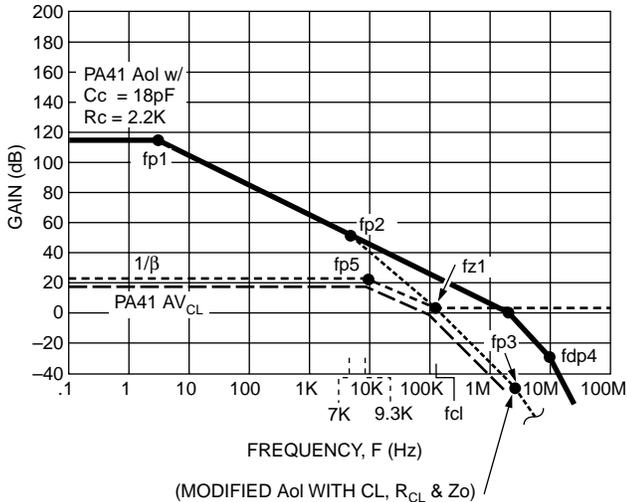
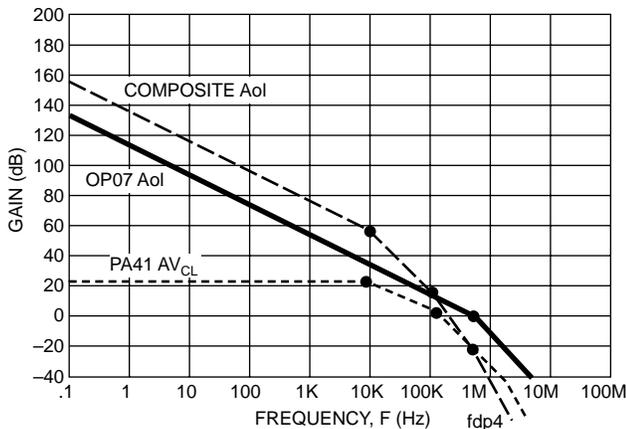
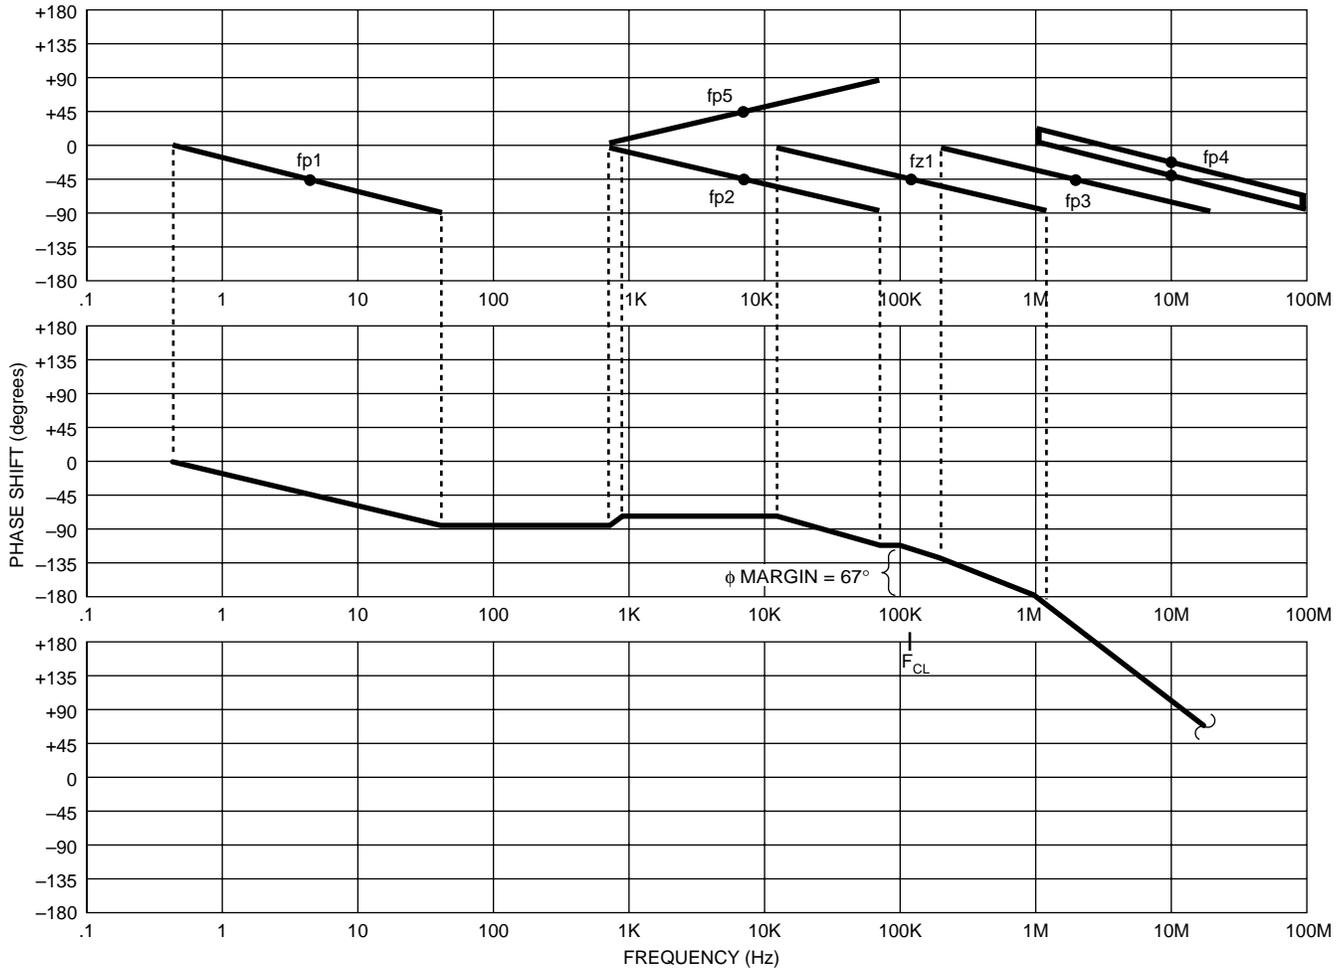

FIGURE 34. POWER OP AMP MAGNITUDE PLOT FOR STABILITY
FIGURE 36. COMPOSITE AMPLIFIER Aol MAGNITUDE PLOT
FIGURE 35. POWER OP AMP OPEN LOOP PHASE PLOT FOR STABILITY
fp3 and fdp4 in the modified PA41 Aol are contributions from the original PA41 Aol curve. Refer to Figure 34.
STEP 7: Compensate PA41 booster for stability with capacitive load. If the booster stage is not locally stable, we have no chance at stabilizing the entire composite amplifier loop. We will add a feedback zero at 9.3 kHz. This will also add a zero in the 1/β plot at fz1. Refer to Figure 34. Now plot the open loop phase plot of the booster amplifier as shown in Figure 35 (see following page). We see 67 degrees of phase margin for the booster amplifier loop.
STEP 8: Create new Composite Aol from OP07 Aol and PA41 AV_{CL}. Remember that if we add log functions it is the same as multiplying gains. If we add the OP07 Aol plot to the PA41 AV_{CL} plot from Figure 34, we obtain the Composite Aol plot as shown in Figure 36.